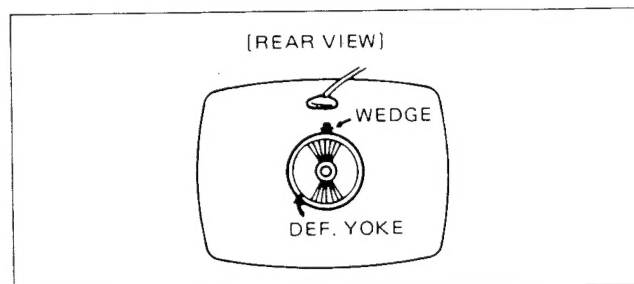

Fig. 5-9
2. Adjust the convergence around the edges of the picture tube by tilting the yoke, up-down and left-right, and temporarily install one wedge at the top of the yoke. (Fig. 5-9, 10, 11)